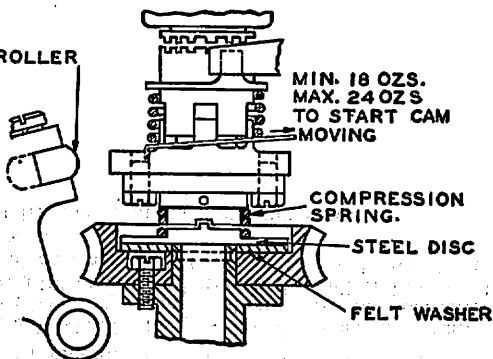

Fig. 30
3.61 **Main-Bail-Cam Friction-Clutch Torque:** After motor has been run for at least 10 minutes a pull of Min. 18 ozs., Max. 24 ozs. applied to main-bail-cam, perpendicular to radius, shall move cam in a direction opposite normal rotation when motor is running, selector-magnet is operated and main-bail-roller is held away from its cam. **Fig. 30**
(a) To check, remove tape-reel and gear-guard, hold main-bail-roller away from cam by pressing upon lid of oil cup at top of the main-bail-plunger, block magnet-armature in operated position so that main-clutch will not engage; hook scale into screw hole and pull in direction reverse to normal rotation until cam just starts to move. **Fig. 30**